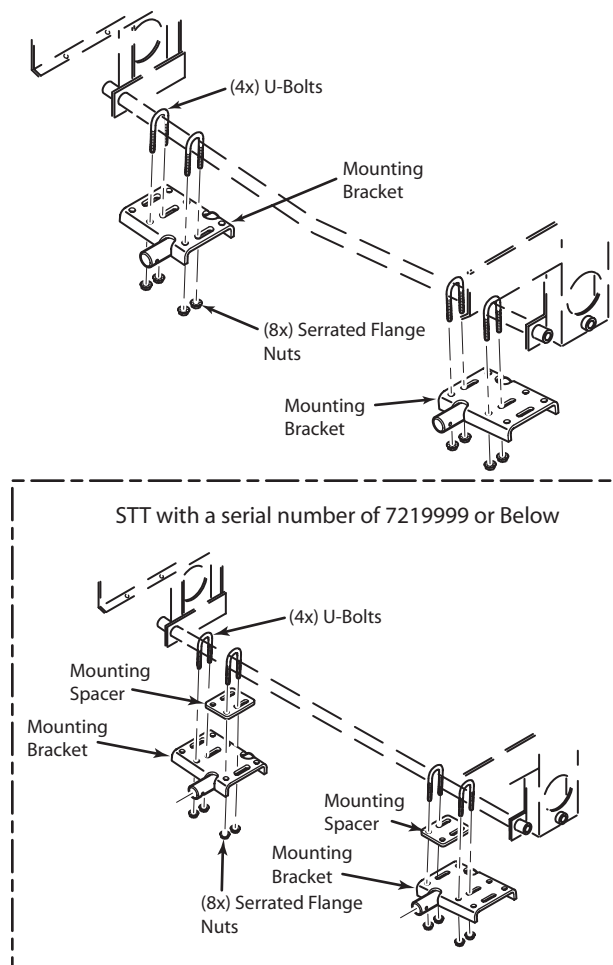

FIGURE 3-1
3. Attach the mounting brackets to the cross bar between the wheel motor brackets using (4) u-bolts and (8) serrated flange nuts. See Figure 3-1. Do not tighten the hardware.
If the Tiger Striper is installed on an STT with a serial number below 7219999, part number 423966 mounting spacer will need to be installed between the mounting bracket and cross bar. See Figure 3-1.
4. The edge of the mounting bracket should be under the wheel motor mounting plate for proper installation. See Figure 3-1.